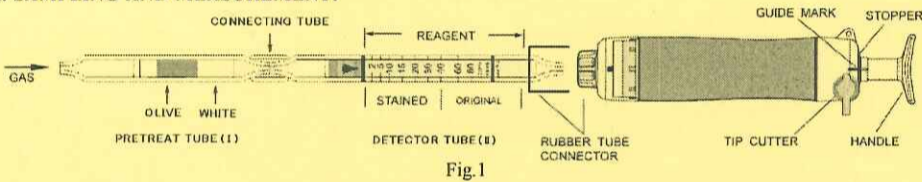

Fig.1
- Break both ends of the pretreat tube (I) and detector tube (II), and connect each end of the pretreat tube and detector tube with connecting tube as shown in Fig.1.
- Insert the detector tube into the aspirating pump securely as shown in Fig.1. (Arrow mark shall point to the pump.)